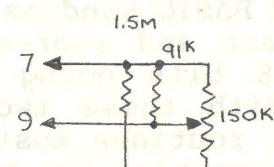
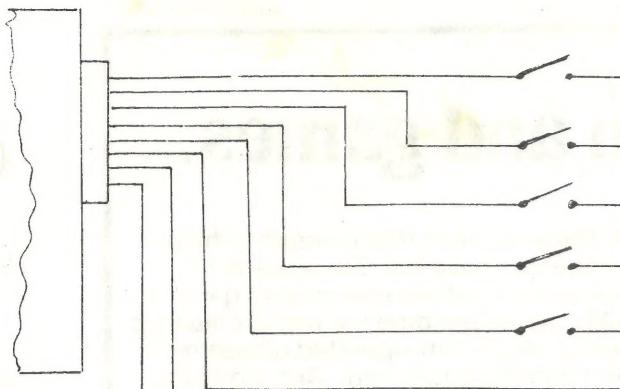

FIG. 3
FIG. 4
c. Knob. Modify line 10 IF KN(1)= N GOTO 30. The value of N will come later. The circuit for a knob is shown in Fig. 3. All of this should be duplicated for each switch desired. The potentiometer will allow you to put a number of switches on the same line as each would have a different pot. setting as shown later. A total circuit could be that of Fig. 4. Set pot A and close the switch. Ask the machine to PRINT KN(1), and get a value, say -143. This would be the value of N in the Line 10 shown above. By repeating this procedure for all the pots, you can see that as each switch is closed, it can be identified because it has a unique KN value. Theoretically you could have 256 switches, but because of various uncertainties, there should be 10 digits between KN values. The Line 10 command should also accommodate this variability by becoming 10 IF KN(1) > -148 IF KN(1) < -138 GO TO ...